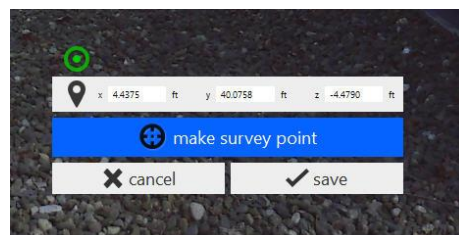

Figure 7: Make Survey Point
- Convert point to survey points by clicking the small gray icon below the point location and selecting “make Survey point” (Figure 7)